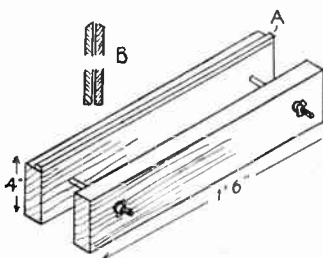

Fig. 1
At Fig. 1 is given a drawing of a press, perhaps the most important appliance of the lot. You simply cannot do the work without it. Cut the cheeks of stout timber, say  $1\frac{1}{2}$  ins. thick, or more. At 2 ins. from each end, on a centre line, bore  $\frac{3}{8}$  in. holes through, and be sure to get these holes in true alignment in both cheeks. At top (A) screw a strip of wood along,  $\frac{1}{2}$  in. thick and  $\frac{1}{4}$  in. wide. Now fit the cheeks of the press with iron bolts at least 6 ins. long. A washer goes under each nut, which should be of the wing pattern for easy and quick tightening. A pair of shorter bolts might be included